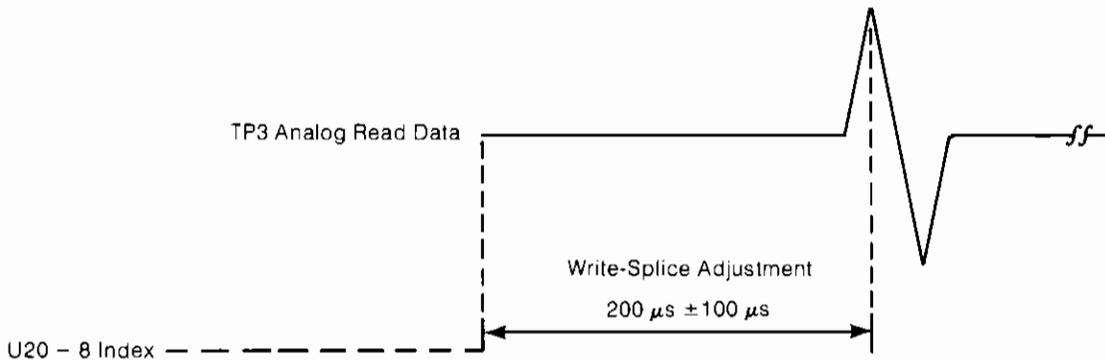

Figure 3-6. Index Pulse to Write-Splice Bit Timing
6. The time from Index pulse to write-splice bit should be 200  $\mu$ Seconds,  $\pm$ 100  $\mu$ Seconds (refer to Figure 3-6). To adjust the write Index-to-Burst time, loosen the single-sided sensor setscrew holding the (single-sided-sensor) phototransistor located on the bottom of the chassis toward the front of the unit (Figure 3-5). Using the adjustment tab protruding through the casting, move the phototransistor until the specification is met. Tighten the setscrew while observing the scope signal. Verify that the adjustment did not change.